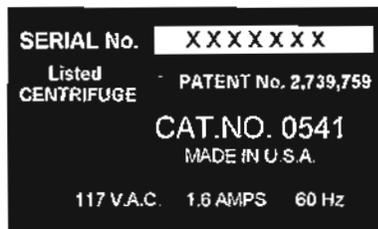

Figure 1-4. Manufacturer data plate.
(1) The centrifuge manufacturer data plate (located on the bottom of the centrifuge) is depicted in figure 1-4.